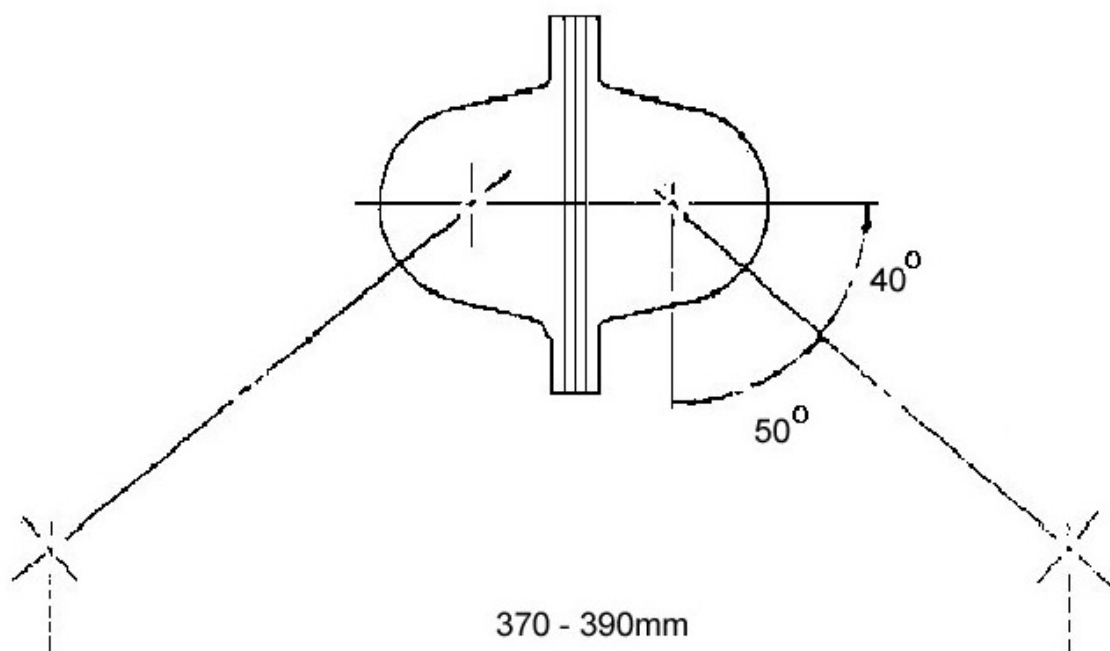

Figure 3: Checking Free Length of Linkage
10. Check free length of assembly in accordance with Figure 3.
11. Lubricate pins (8) with graphite grease and assemble links to pivot blocks using these pins. Ensure flats on pins and links engage correctly and secure with new split pins.